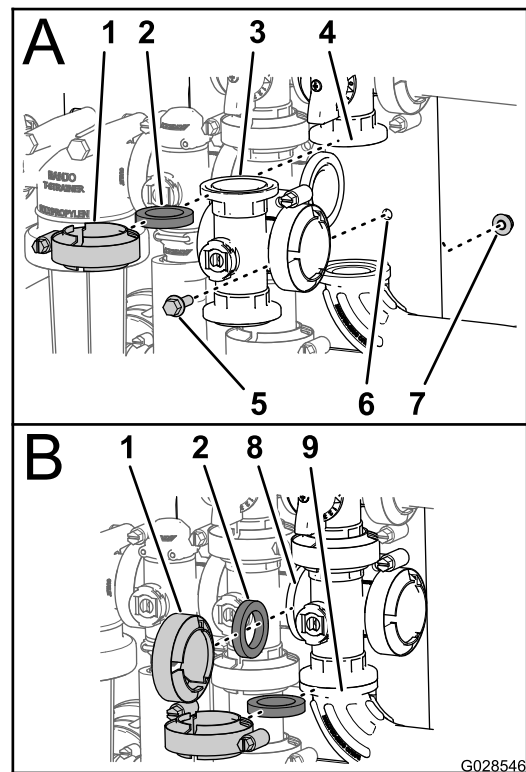

Figure 98
1. Align the flange of the master boom valve manifold, 1 gasket, and the flange of the master boom bypass valve (A of Figure 98).
2. Assemble the master boom valve manifold, gasket, and master boom bypass valve with a clamp tightened hand tight (A of Figure 98).
3. Align the flange of the master boom valve manifold, 1 gasket, and the agitation valve manifold (B of Figure 98).
4. Assemble the master boom valve manifold, gasket, and agitation valve manifold with a clamp tightened hand tight (B of Figure 98).
5. Align the flange of the master boom valve manifold, 1 gasket, and the 90° flanged elbow (at the end of the hose for the flow meter; refer to B of Figure 98).
6. Assemble the master boom valve manifold, gasket, and 90° flanged elbow with a clamp tightened hand tight (B of Figure 98).